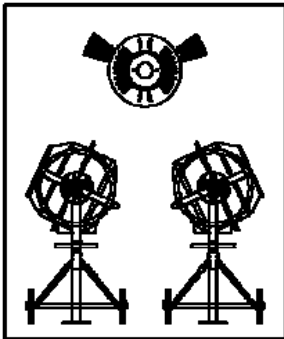

Fig.12
- Position the drum axis for loading mortar as shown in Figure 12.